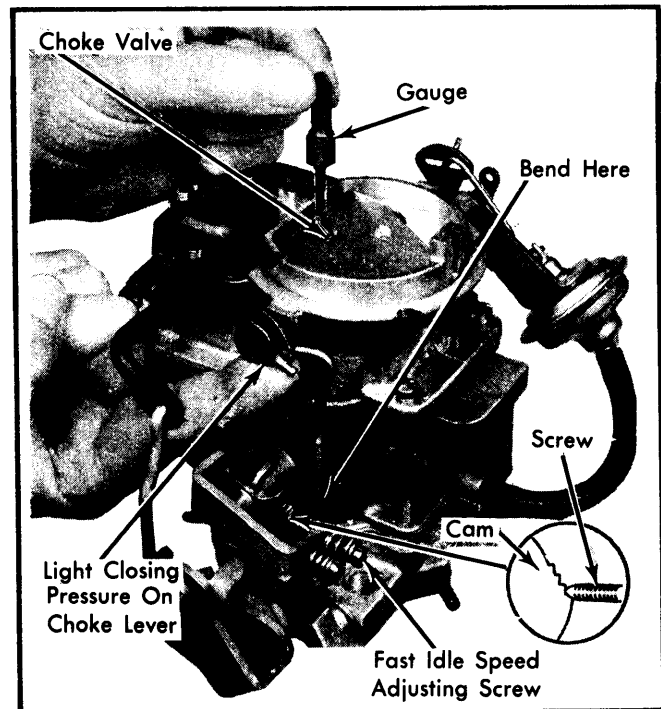

Fig. 5 Adjusting Fast Idle Cam Position
1) Loosen choke coil cover and rotate cover 1/4 turn in rich direction. Tighten one retaining screw to hold choke coil cover in position. See Fig. 5.